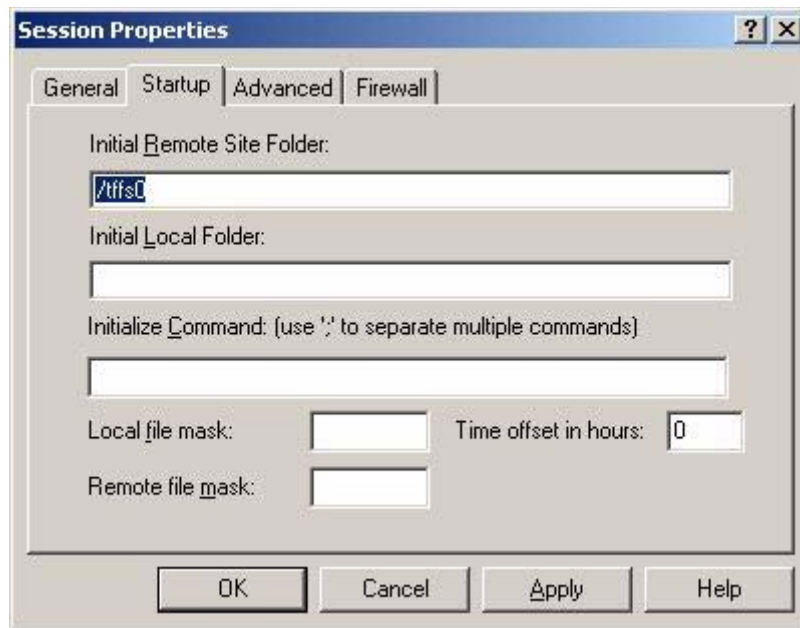

Figure 5-14 Startup session page - MSC upgrade
2. Copy the following new Build files to the PM 5000 MSC Card in “/tffs0” folder. Figure 5-14 displays this startup session page. Click on **OK**. The WS_FTP screen opens.